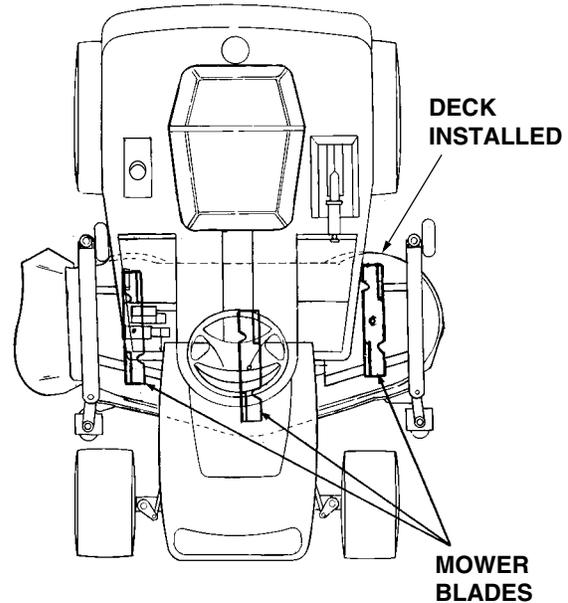

Figure 54
- Position the mower blades so the ends of each blade point to the front and the rear of the tractor (See Figure 54).